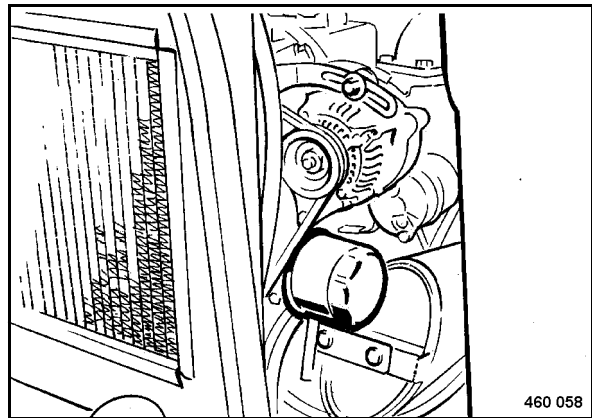

Fig. 97
- Unscrew the filter cartridge (Fig. 97) with a suitable filter wrench.